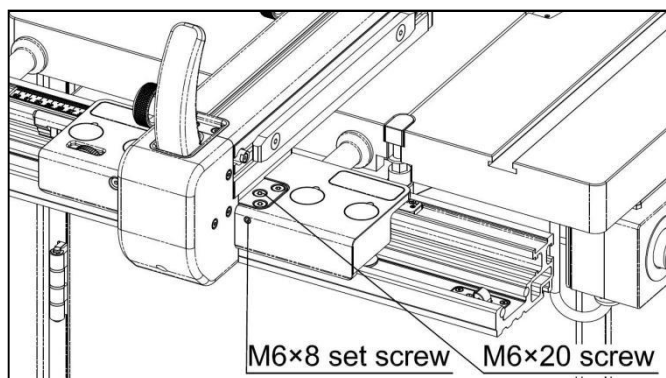

Fig. 10-11
1. As shown in Fig. 10-11, lift the locking handle, then use a hex wrench to remove the six M6×20 screws, and loosen the two M6×8 set screws by two turns. Then remove the Fence Main Assembly.